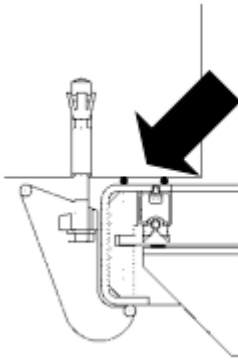

Fig. 4
- Prior to final fixation, pull frame slightly away from the wall in order to place two rows of sealant (according to supplier's instructions) behind the frame and transverse seal up to the max. height of water head, respectively to the transverse seal (Fig. 4 and 6). If bottom seal is bolted, sealant shall also be placed there.